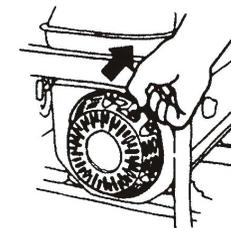

Figure 30
7.5.1 Start the generator (Figure 30)